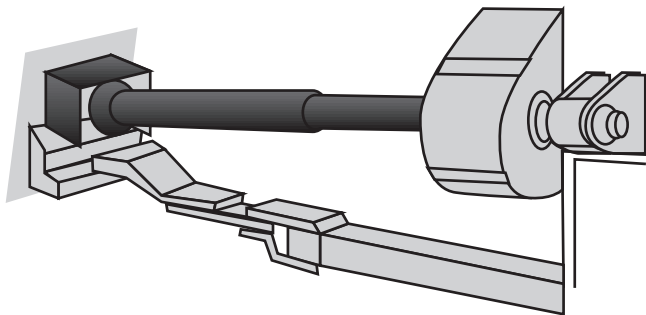

Figure 6. Shielded for safety: keep dangerous rotating parts covered on PTO driveline.
- Ensure PTO drivelines are fully shielded (Figure 6).